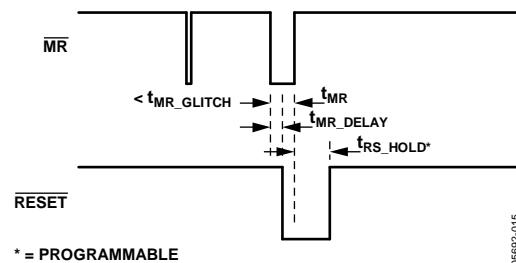

Figure 15. Manual Reset ( $\overline{\text{MR}}$ ) Timing Diagram
The  $\overline{\text{MR}}$  and  $\overline{\text{RESET}}$  timing diagrams are shown in Figure 15. Note that  $\overline{\text{RESET}}$  is activated after  $t_{\text{MR\_DELAY}}$  and is held for  $t_{\text{RS\_HOLD}}$  after the  $\overline{\text{MR}}$  signal has gone high again.
- When  $\overline{\text{MR}}$  is asserted (see Figure 15)